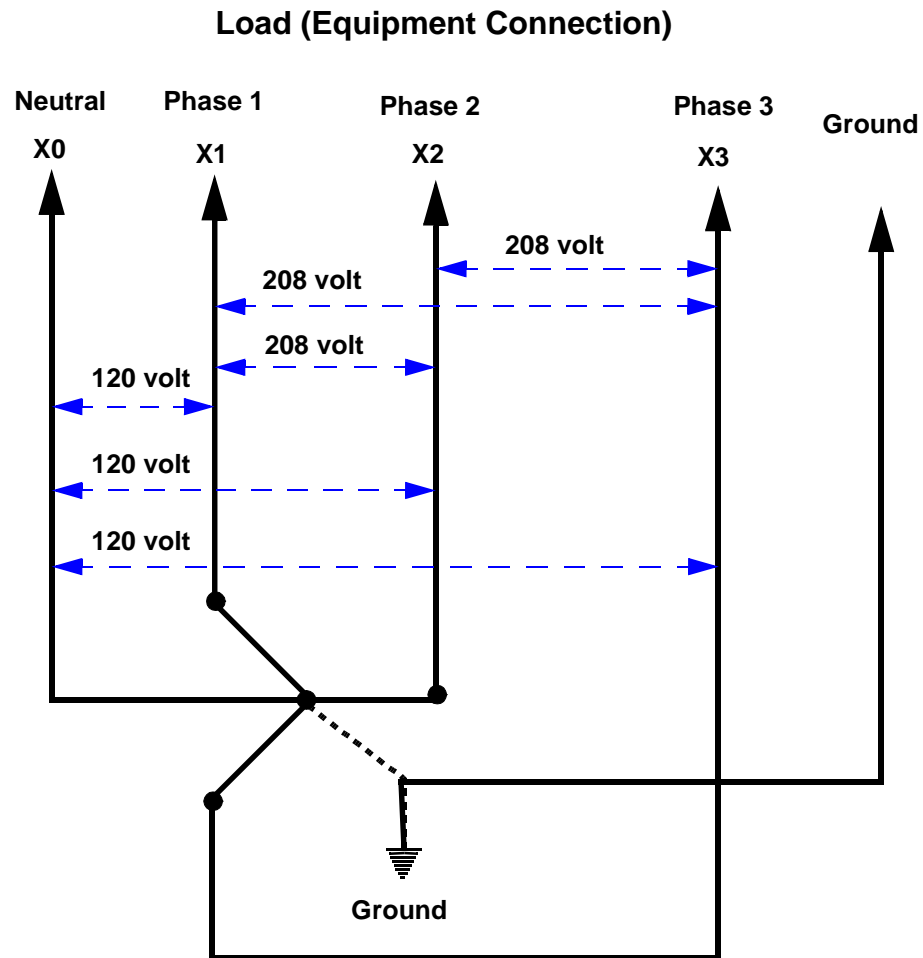

Figure 4: Wye Electrical System
- Two single phase outlets that match local outlet configurations, as shown in Figure 4.